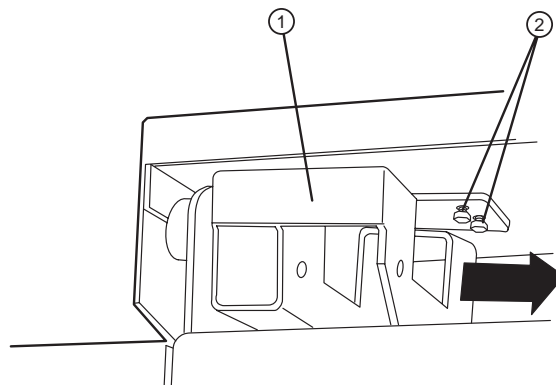

Figure 1-3 The top cover hinge assembly.
- ①—Hinge. ②—Gas shock retaining bolt. ③—Gas shock.
④—Top and bottom shoulder screws (remove). ⑤—Side shoulder screw (remove).
5. Standing at the rear of the imagesetter, loosen the two (2) hex head screws from the hinge assemblies, left and right. Refer to Figure 1-3.
6. Slide the bracket out. Refer to Figure 1-3.
- ①—Top cover hinge assembly. ②—Two hex screws (loosen).
7. Pull the bottom segment up on the top cover. Refer to Figure 1-3.